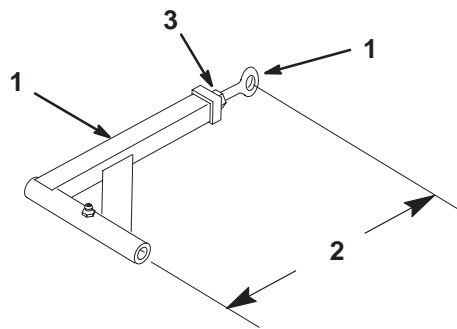

Figure 52
9. If the fixed idler contacts the end of the adjustment slot and more belt tension is required, a small change in the lengthen the push arms can be made (Fig. 52).